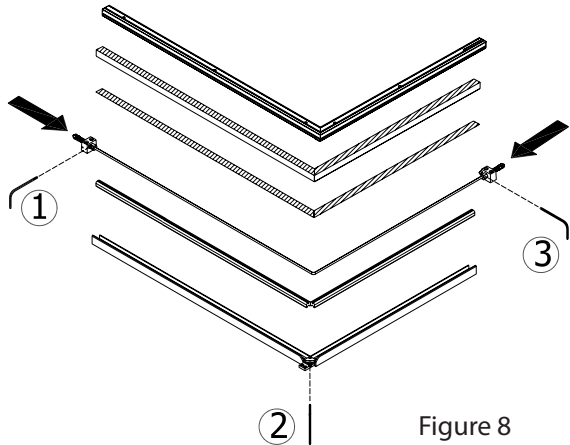

Figure 8
As shown in the Figure 8, there are 3 connection points for the knives. First unscrew the screws with the allen key and then replace the old knife with a new one.
- Check if the cutting blade is broken. If so, change it with the spare one as described in this manual (Figure 8).